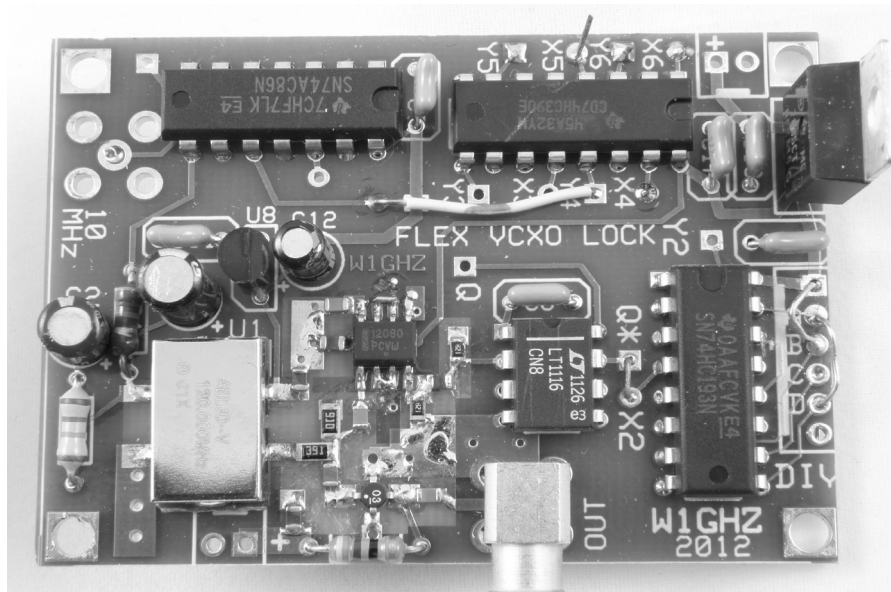

Figure 7 — 120 MHz VCXO board
**120 MHz** — provides a stable LO for 144 MHz. As shown in Figure 7, the prescaler is a MC12080 programmed to divide by 10, to 12 MHz. Selection of divide-by-10 requires changing both pins 3 and 6 from ground to high, by cutting the PCB traces and adding jumper wires from pin 3 to pin 2 and from pin 6 to pin 7. The rest of the wiring is the same as the 96 MHz board. This board also locks right up; the output has small spurs 1 MHz on each side of the main output.